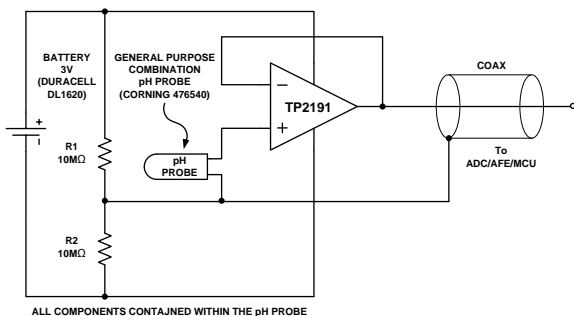

Figure 4: Buffer pH Probe
The TP2191(N) op-amp has input bias current in the pA range. This is ideal in buffering high impedance chemical sensors such as pH probe. As an example, the circuit in Figure 4 eliminates expensive low-leakage cables that that is required to connect pH probe to metering ICs such as ADC, AFE and/or MCU. A TP2191(N) op-amp and a lithium battery are housed in the probe assembly. A conventional low-cost coaxial cable can be used to carry OPA's output signal to subsequent ICs for pH reading.